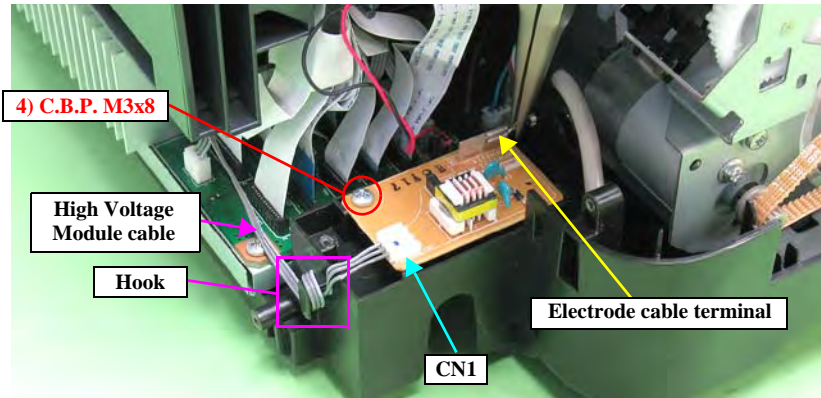

Figure 4-38. Removing the High Voltage Module Board (2)
- Wind the High Voltage Module cable on the hook one time as shown in Figure 4-38.